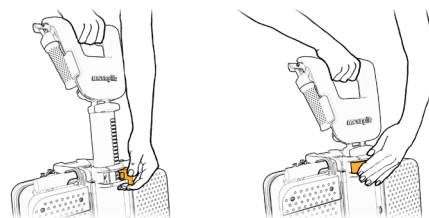

Figure 44
7. Pull the rod lever (1) to adjust the height of the handlebar to the lowest position and bring the lever back to the secure position (2) (See Figure 44).